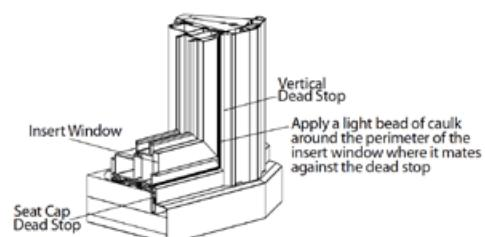

Figure G1
5. After proper cleaning, apply a "light" bead of caulk along the entire perimeter of opening where insert window is pushed against dead stops. (**Figure G1-G2**)